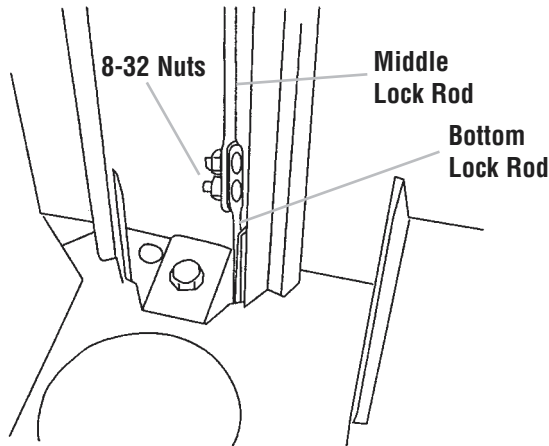

Figure 21
## STEP 17 - POSTS, PANELS, AND LOCK ASSEMBLY (Figures 21–22)
- Attach the middle lock rod to the bottom lock rod by inserting the threaded studs through the holes in the lower lock rod and securing with (2) 8-32 nuts (Figure 21).